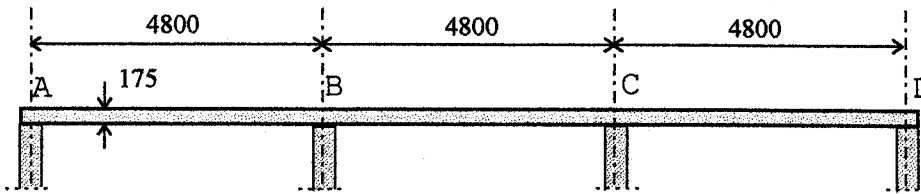

Fig. Q1
1. The continuous one-way spanning slab shown in Fig. Q1 spans onto walls at 4.8m centres. The 175 thick slab carries a characteristic imposed load of 3.5 kN/m^2 , uniformly distributed, in addition to self-weight. Design flexural reinforcement for the slab and check its adequacy as regards shear and deflection.